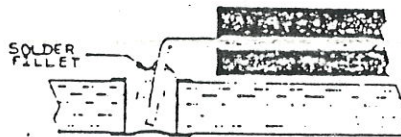

FIG. L-1
STEP 3. USING THE 600 DEGREE SOLDER IRON, PLACE IRON TIP AGAINST CHIP LEG AND FLOW SOLDER UNTIL A NICE FILLET APPEARS AT THE LEG-PAD JUNCTION. REPEAT STEP FOR ALL CHIP LEGS. REFER TO FIGURE L-1.